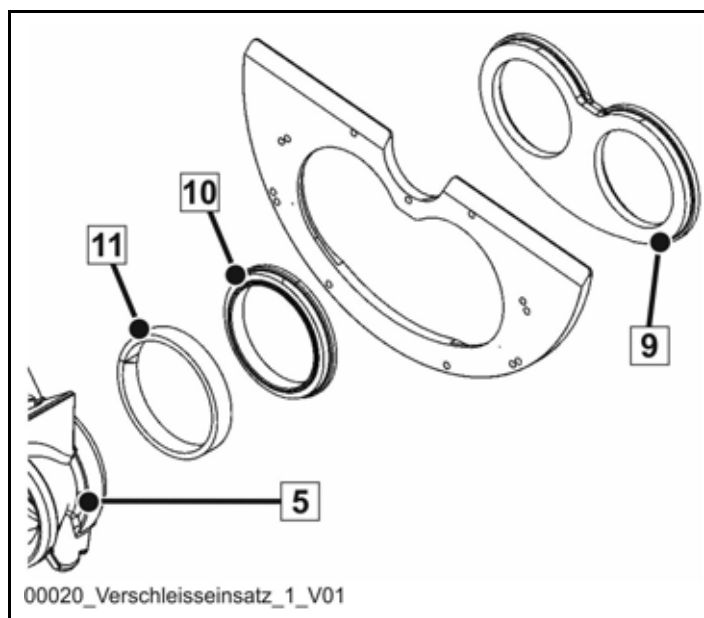

Fig. 341
A one-piece wearing insert (9) (Fig. 341) made of white cast iron is used as standard.